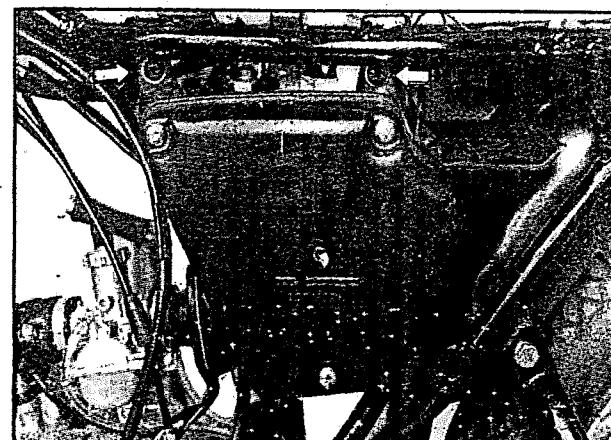

Fig 3.15
- Unscrew Air Cleaner Housing mounting screws (2 nos) Take off the Air Cleaner Housing (fig 3.15)